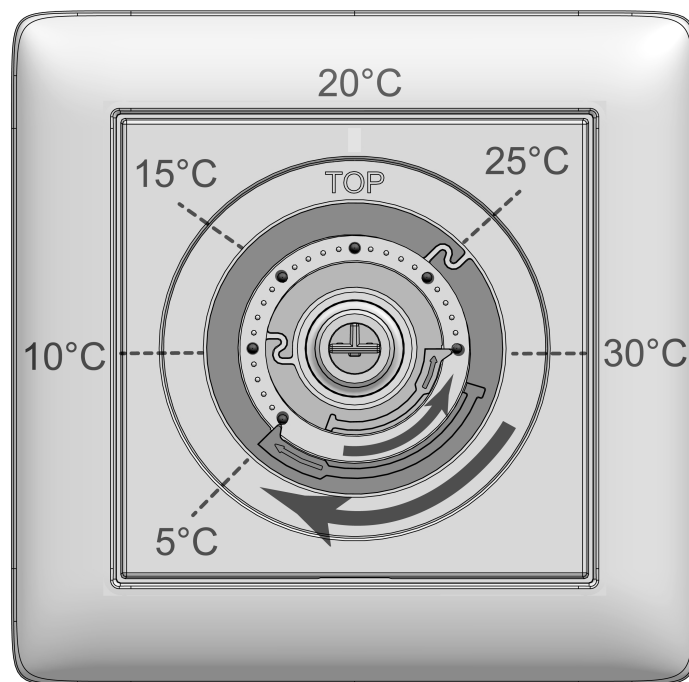

Figure 4: Adjustment rings for temperature limit
In the centre position, the device regulates to approx. 20 °C setpoint temperature. The lowest setpoint temperature is approx. 5 °C and the highest setpoint temperature is approx. 30 °C (see figure 4).
- Pull the control knob (4) off the central plate (3) so that the adjustment rings (6) are visible (see figure 4). The temperature values shown in the picture are for orientation purposes.